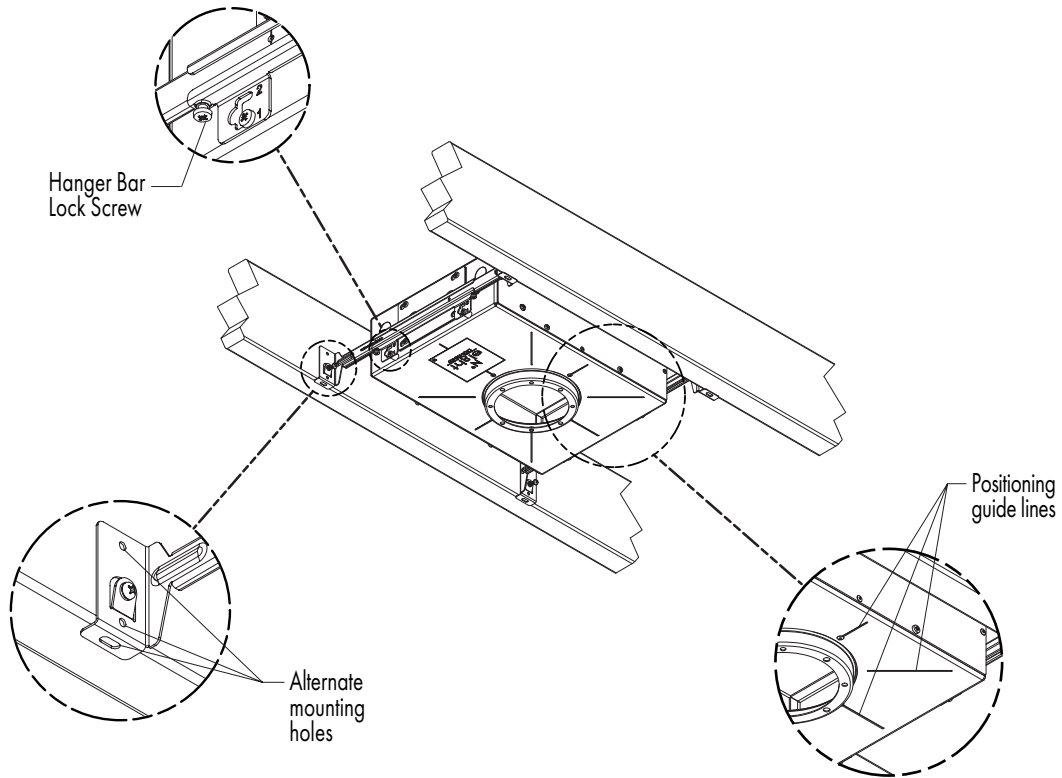

FIG 2.1 Fastening Housing to joists
STEP 1 Spread Hanger Bars to approximate joist spacing. Temporarily secure Lock Screws to keep Housing from sliding along Hanger Bars – **FIG 2.1 & 2.2.**
STEP 2 Secure Housing & Hanger Bar assembly to Joists using either the fasteners supplied on Hanger Bars or fasteners through alternate mounting holes – **FIG 2.1.**
STEP 3 Reposition Housing along Hanger Bars as needed. Use guide lines to help locate Housing relative to nearby walls or other fixtures – **FIG 2.1 & 2.2.**